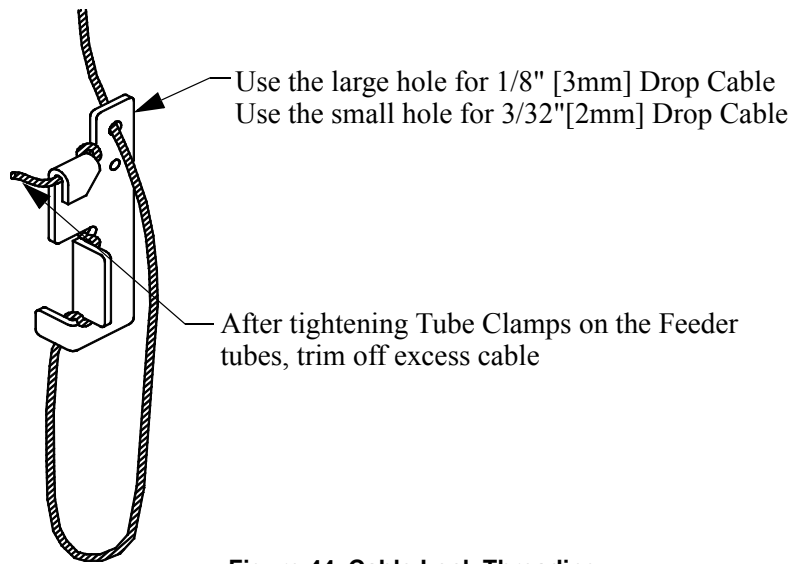

Figure 44. Cable Lock Threading
6. Install Adjustment Leveler within 6" [152 mm] of feeder line. **Figure 44.** shows the proper cable routing around the Adjustment Leveler.
Finally, tighten the Tube Clamps on the feeder tubes. Clamp the joints securely, but do not crush the tubes. Re-adjust all Adjustment Levelers as needed and trim off excess cable as shown in **Figure 44.**